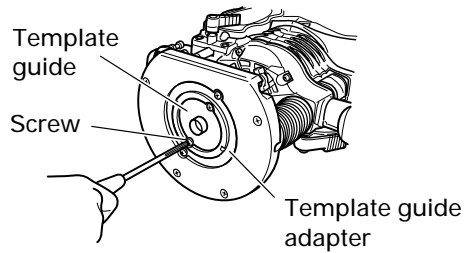

Fig. 12
As shown in Fig. 12, to install insert template guide in center hole in template guide adapter (A) with 2 accessory screws.